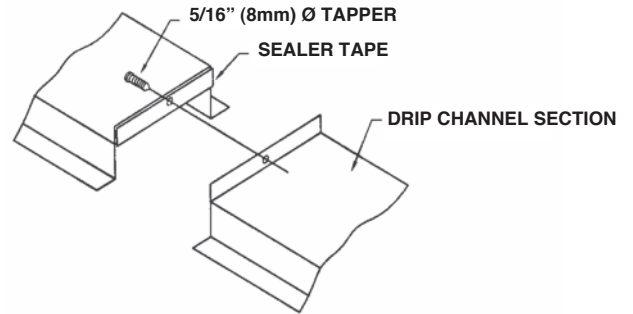

Figure 9 – Drip Channel Assembly
10. Fasten the drip channel sections together, end to end, by driving a self-tapping 5/16" (8 mm) screw through the section end with the larger hole into the mating end with the smaller hole. Stainless steel units will use 5/16" (8 mm) stainless steel nuts, bolts, and washers. (See Figure 9.)